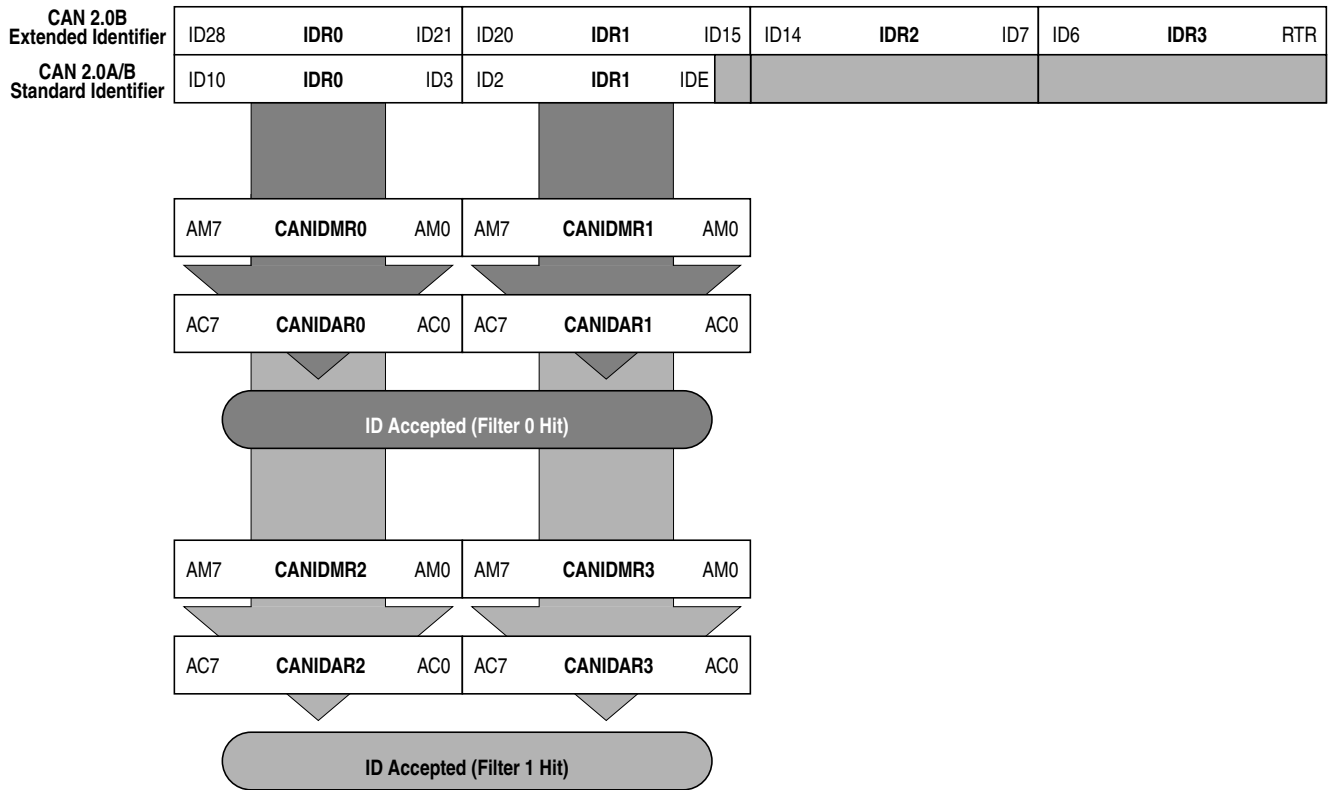

Figure 16-41. 16-bit Maskable Identifier Acceptance Filters
- Figure 16-41 shows how the first 32-bit filter bank (CANIDAR0–CANIDA3, CANIDMR0–3CANIDMR) produces filter 0 and 1 hits. Similarly, the second filter bank (CANIDAR4–CANIDAR7, CANIDMR4–CANIDMR7) produces filter 2 and 3 hits.